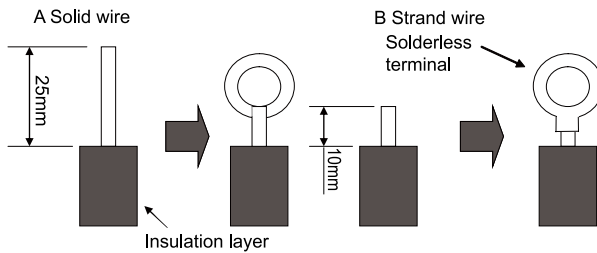

Fig.36
### (1). For solid core wiring (Fig.36)
### (2). For strand wiring (Fig.36)